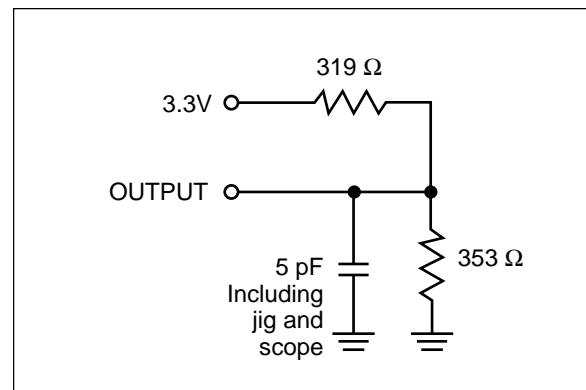

Figure 1b.
- Tested with the load in Figure 1b. Transition is measured  $\pm 500$  mV from steady-state voltage. Not 100% tested.
2. Tested with the load in Figure 1b. Transition is measured  $\pm 500$  mV from steady-state voltage. Not 100% tested.